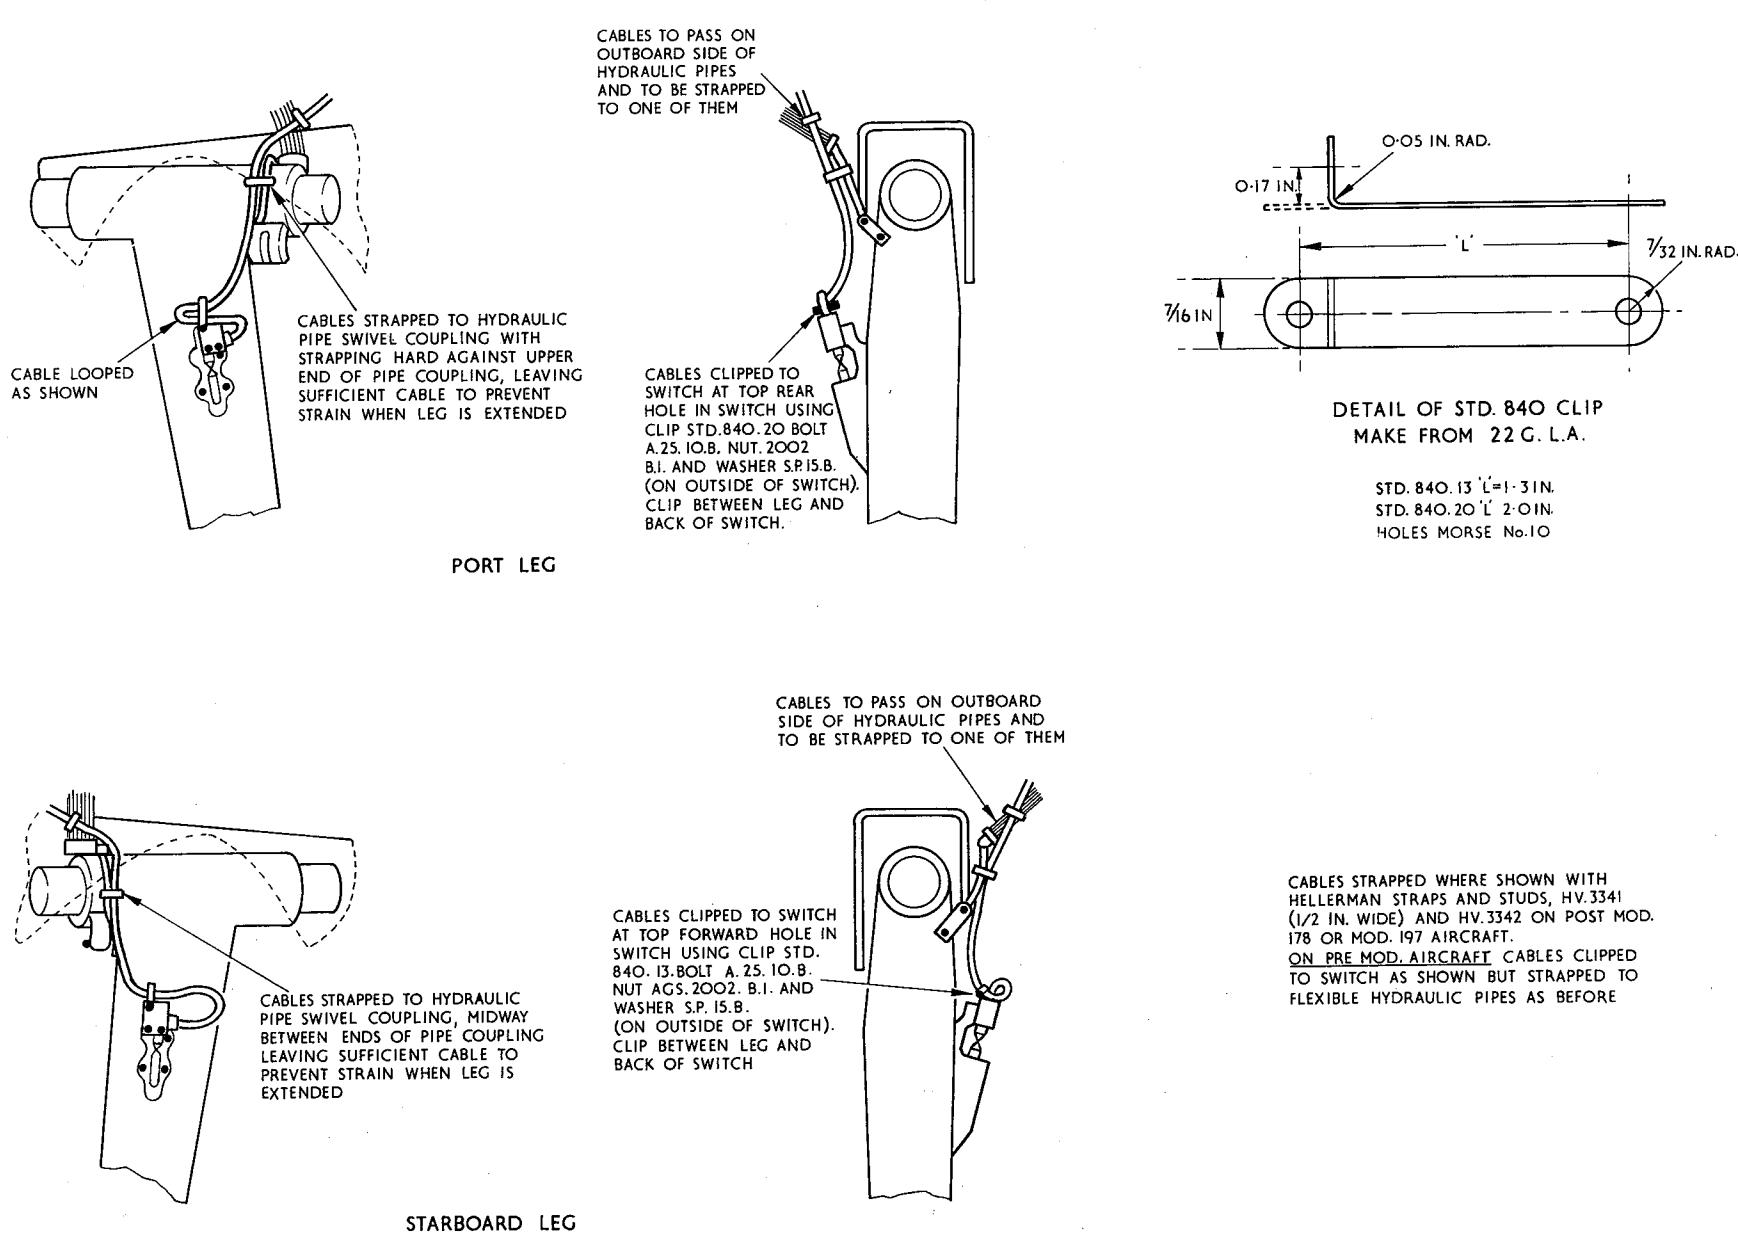

Fig. 15 Clipping of cables from undercarriage compression switch
- (1) The run and strapping of the cables is to be in accordance with fig.15.
- (2) Uninyvin 20 cable must *not* be used in this connection, because of its lack of flexibility. Unitersil 20 cable should be used.
- (3) Hellerman Twin Grip Ring Tags (Ref. 5X/7553) should be fitted to the cable terminations at the microswitches when the cable looms are changed.